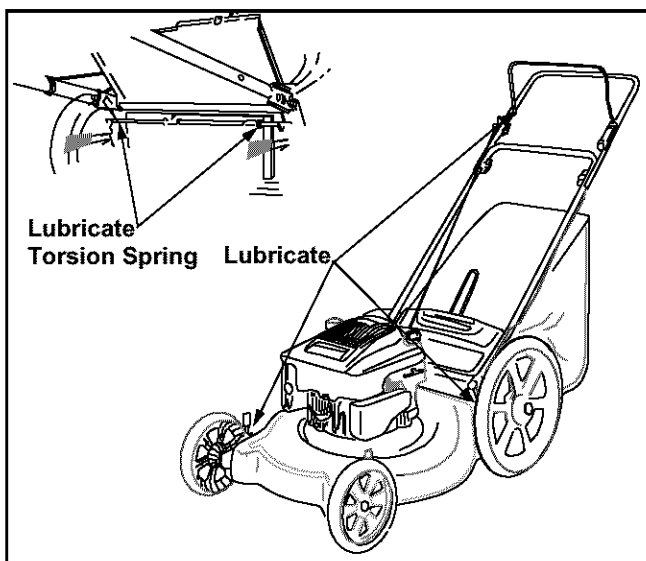

Figure 14
Blade Control: Lubricate the pivot points on the blade control handle at least once a season with light oil. The blade control must operate freely in both directions. See Figure 14.
Wheels: Lubricate the wheels at least once a season with light oil (or motor oil). If the wheels are removed for any reason, lubricate the surface of the axle bolt and inner surface of the wheel with light oil. See Figure 14.
Chute Deflector: Lubricate the torsion springs and pivot points on chute deflector using light oil. This will insure the deflector, which is a safety device, can always work properly. See Figure 14.
- Remove the bolt and the blade bell support which hold the blade and the blade adapter to the engine crankshaft. See Figure 14.